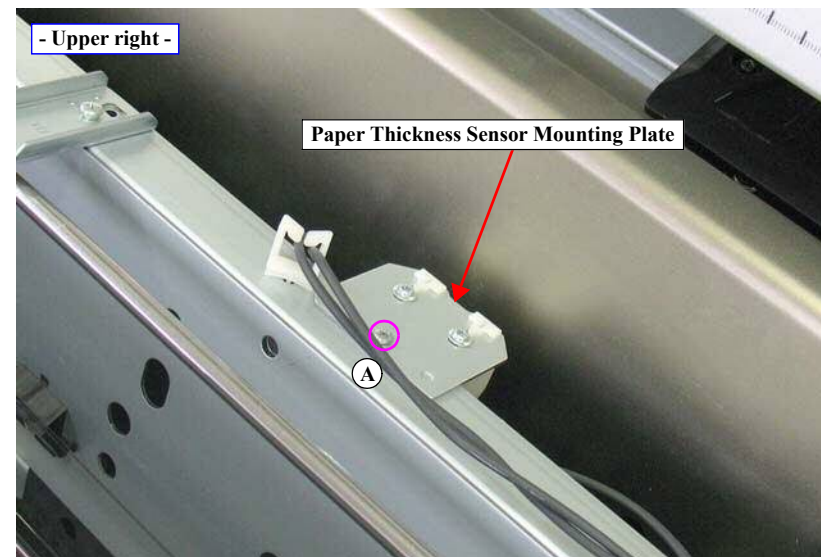

Figure 4-82. Removing the Paper Thickness Sensor Mounting Plate
*NOTE: There is no Maintenance Tank (L) mounted for the Epson Stylus Pro 7700/7710/7700M/7710M/7900/7910/WT7900/WT7910/7890/7908.*
9. Remove the screw that secures the Paper Thickness Sensor Mounting Plate, and remove the Paper Thickness Sensor Mounting Plate. *See Figure 4-82.*
6. Remove the two screws that secure the Driven Roller Release Motor, and remove the Driven Roller Release Motor. *See Figure 4-82.*